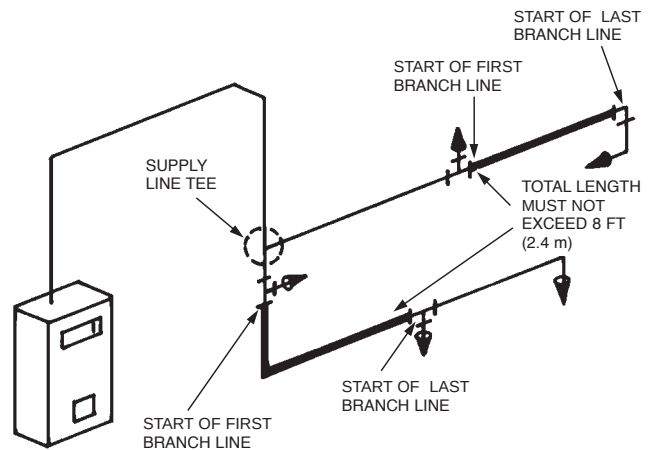

FIGURE 4-132
- 4. The pipe length between the start of the first branch line and the start of the last branch line must not exceed 8 ft (2.4 m). When the supply line is split, the **combined length** of both legs of the supply line (start of first branch line to start of last branch line) must not exceed 8 ft (2.4 m). See Figure 4-132.